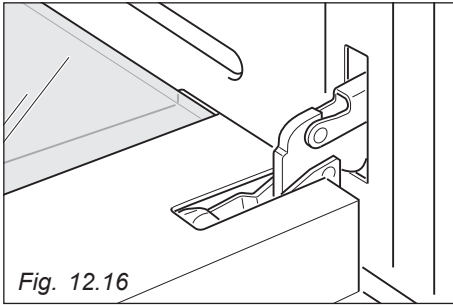

Fig. 12.16
- Open the door to the full extent (fig. 12.16).